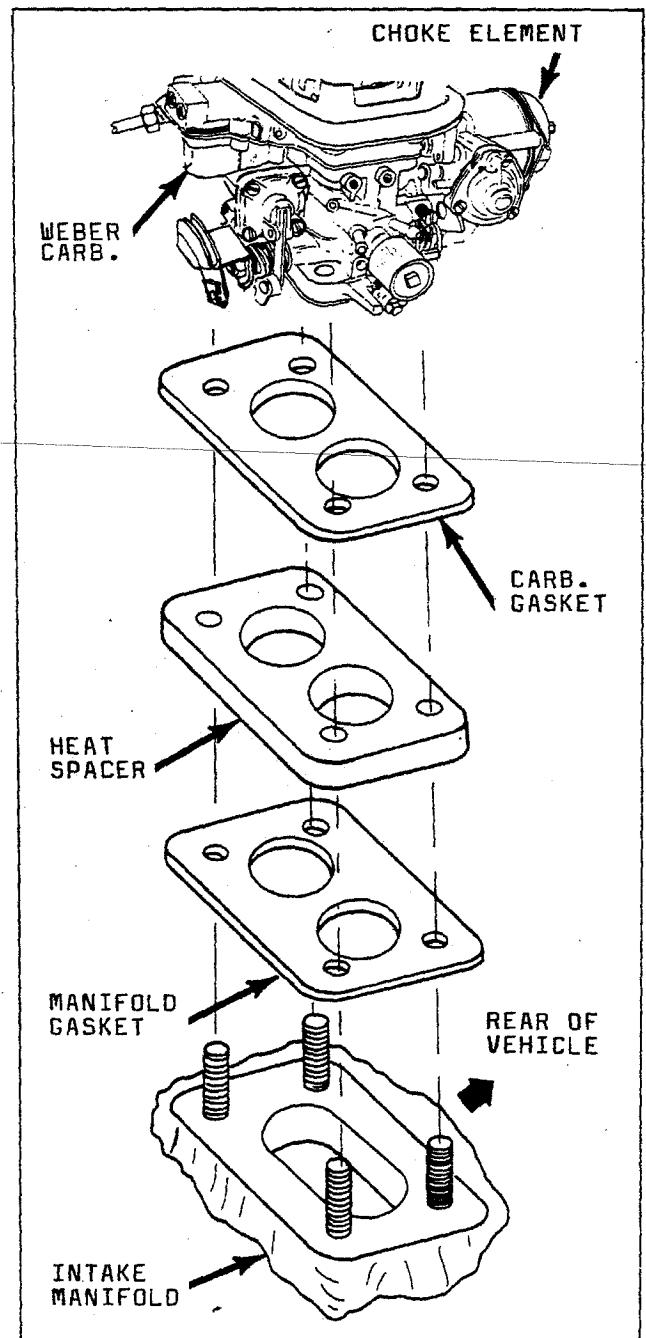

Figure 2
14. Install throttle quadrant supplied in the kit on the Weber carburetor. See figures 2 and 3.
16. Coat manifold gasket lightly with gasket sealer and install on the intake manifold. See figure 2.
19. Install the Weber carburetor above the carburetor base gasket (Fig. 2).